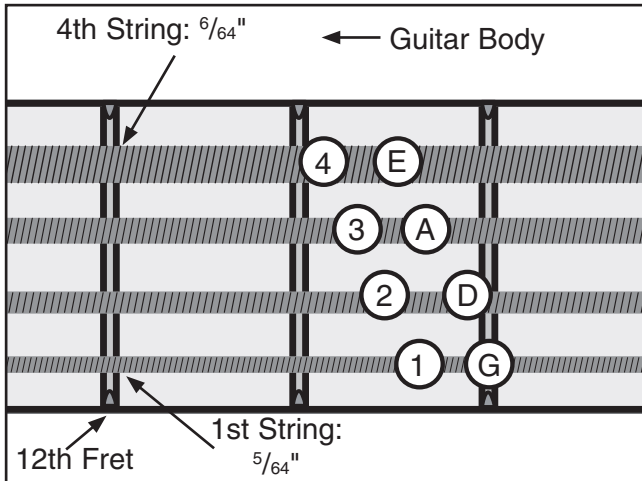

Figure 34. Correct 12th fret string heights.
- Measure the string height at the twelfth fret as shown in **Figure 34**.